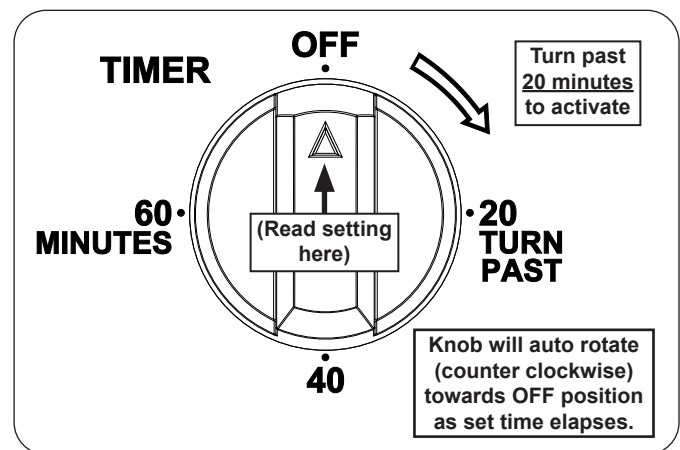

Fig. 33-2 Timer control
4. Set the **TIMER** control knob to the desired cooking time. See Fig. 33-2. See the SETTING THE TIMER section below for more details.
Important: When using the timer for periods of less than twenty minutes, you must first turn the knob past twenty minutes (to activate), then return (counter-clockwise) to the desired amount of time. This will ensure proper timer operation. See Fig. 33-2.